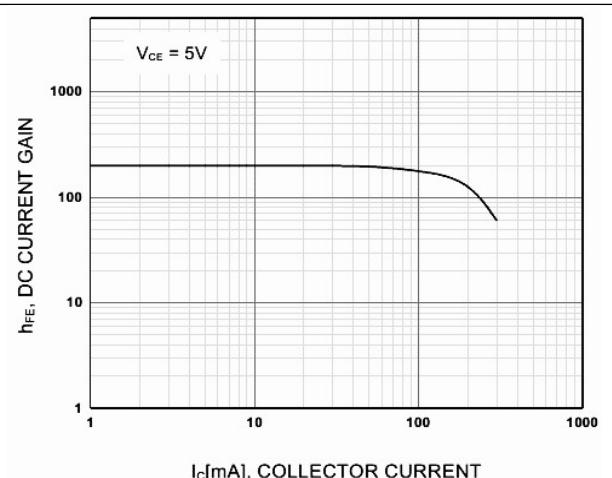

Figure 4.7. DC Current Gain
c) **Figure 4.7** shows the $h_{fe}(\beta)$ vs I_C relationship of transistor BC-547. On the plot, mark the values of β experimentally obtained for different values of $RB2$.